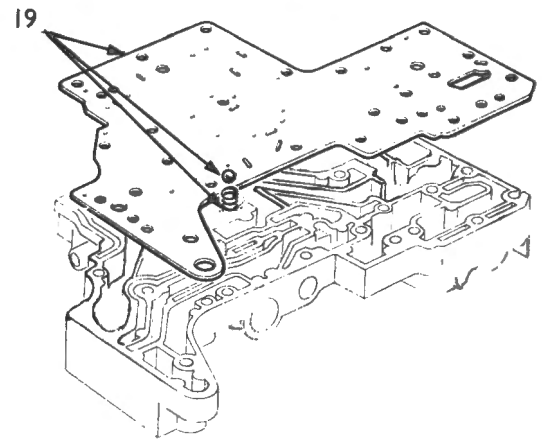

Fig. M-51
- 18 Remove the two short screws securing the plate. Separating plate and valves sequence Fig. M-51.